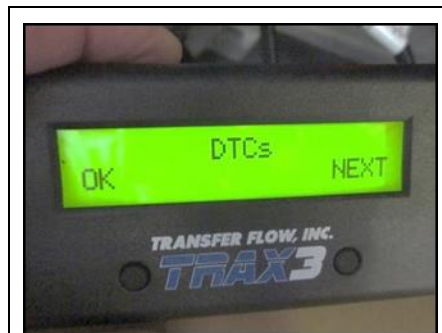

Figure 56
2. DTCs should read "OK". (See Figure 56.)